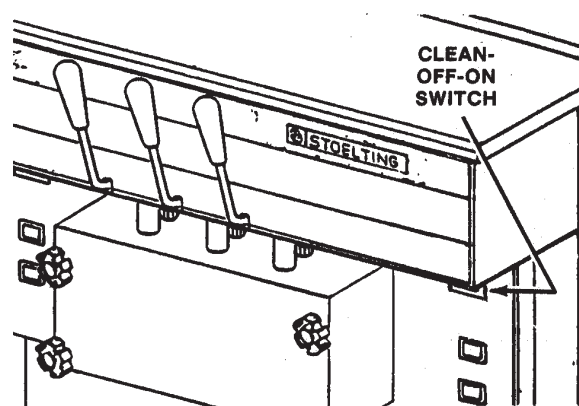

Figure 12. Clean Control
- C. Place the CLEAN-OFF-SERVE rocker switch in the CLEAN position. Check for leaks around the front door seal (Fig. 12).